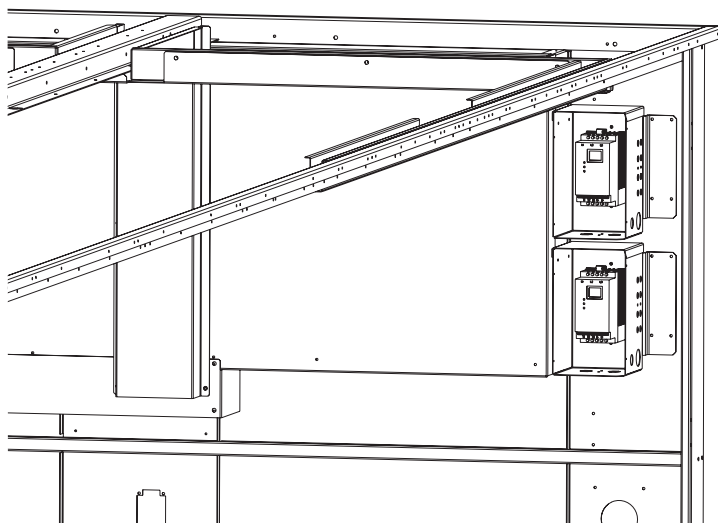

Fig. 11 — MMV Control Mounting with 48/50A2,A3,A4,A5060 MCHX Units
4. Mount the MMV controller enclosures 30RA500381 on the inside of the unit corner post, as shown in Fig. 11, using the mounting brackets 50EJ500656 installed on the enclosures (label 1 as MMV-A and the other as MMV-B). Remove the enclosure covers and install the ½-in. HW60EA001 and 1-in. HW60HH006 connectors in the holes in the lower right hand side of the enclosures.
- g. In main control box connect 1 Motormaster VFD (variable frequency drive) harness 50EJ400658 to the N.O. (normally open) contact of FR-A (see Fig. 11) (label the opposite end of this harness as FR-A) and the other Motormaster VFD harness 50EJ400658 to the N.O. contact of FR-B (label the opposite end of this harness as FR-B) Run the harnesses along the bottom of the control box and out through the hole that the OFM harnesses were in. Pull the harnesses out through the hole in the bottom of the control box and run them through the opening of the cable tray on the back of the control box (in the same manner as the OFM harnesses).